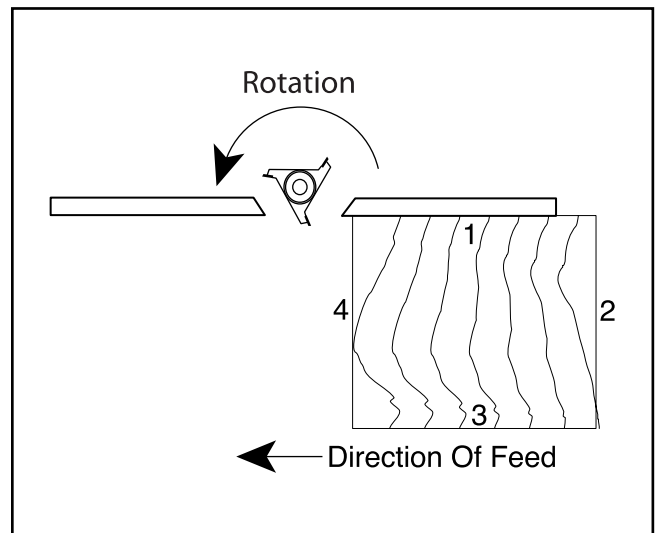

Figure 37. Sequence for multiple cuts.
5. Always cut the end grain first when putting an edge around the perimeter of your workpiece. **See Figure 37.**